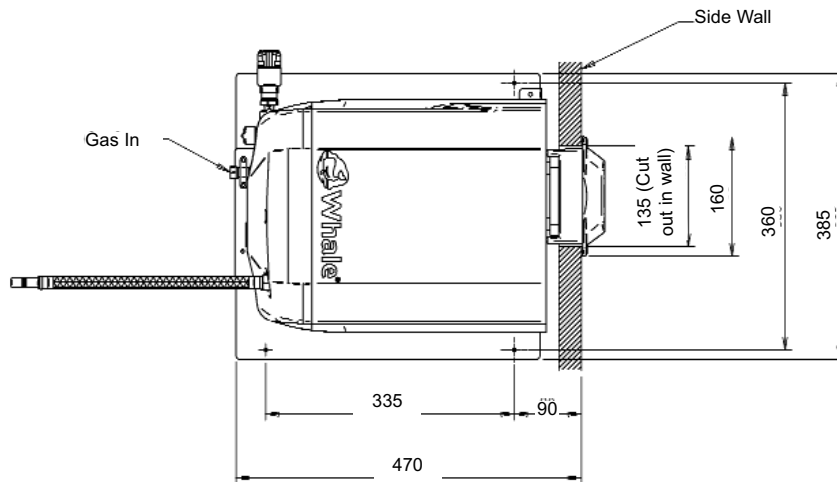

Fig. 3
- Fig. 3 Dimensions – top view